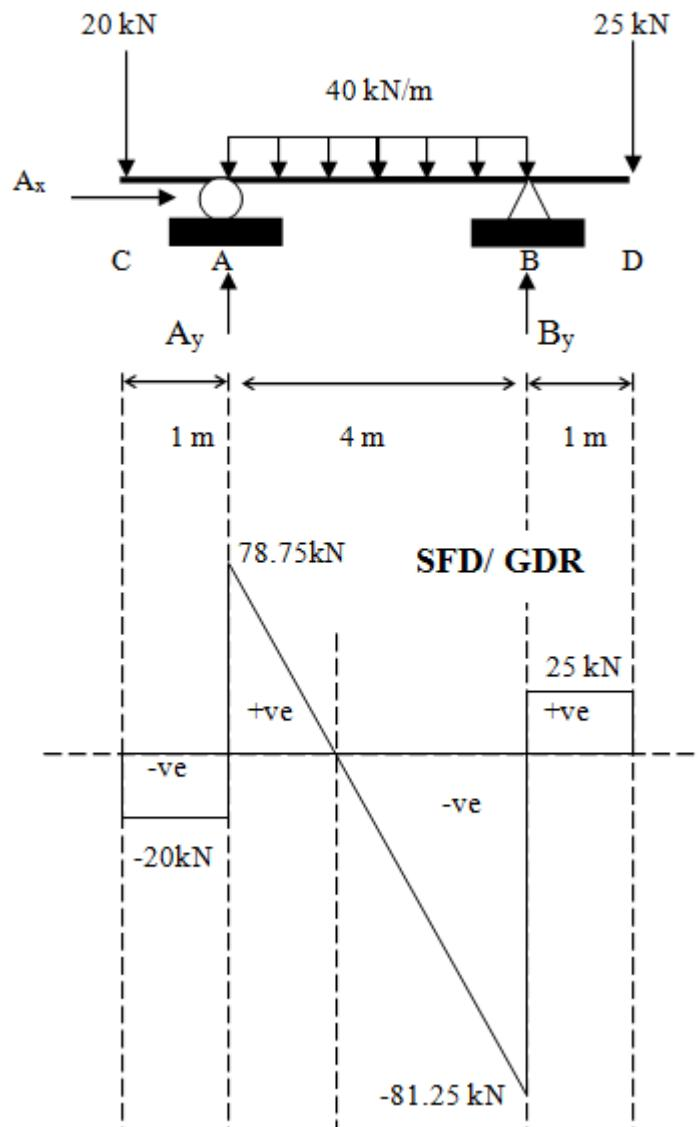

Figure B1c / Rajah B1c
- (c) The overhang beam in **Figure B1c** is applied with a uniform distributed load and two point loads. Sketch **Bending Moment Diagram (BMD)** and calculate the value of **Maximum Bending Moment (M_{max})**.